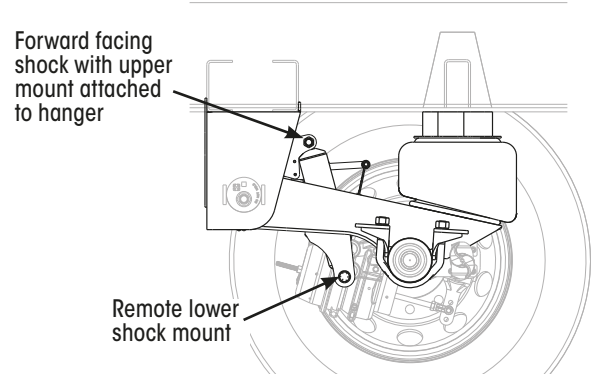

Figure 2: Below Chassis Mount
- The below chassis suspension (Figure 2) has forward facing shock absorbers and the upper mount is below the chassis. The lower shock absorber mount is remote to accommodate the lower shock absorber mount.